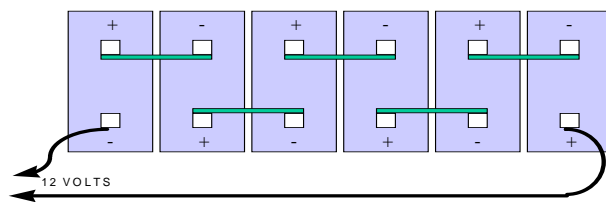

Figure 2-8
- d. All large secondary batteries are wired in series, (+) to (-), to add cell voltages. Six 2 volt cells wired in series will provide a nominal 12 volts, as shown in Figure 2-8.